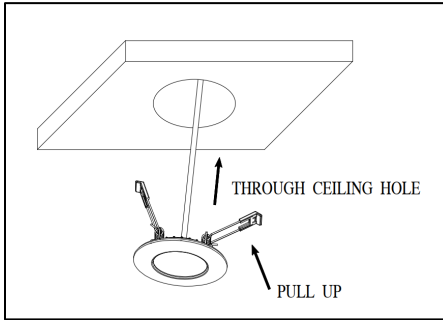

Figure 6
- Pull the spring clip on the trim module up and through the ceiling hole and place module in the hole making sure the spring clips are holding securely. (Figure 6)